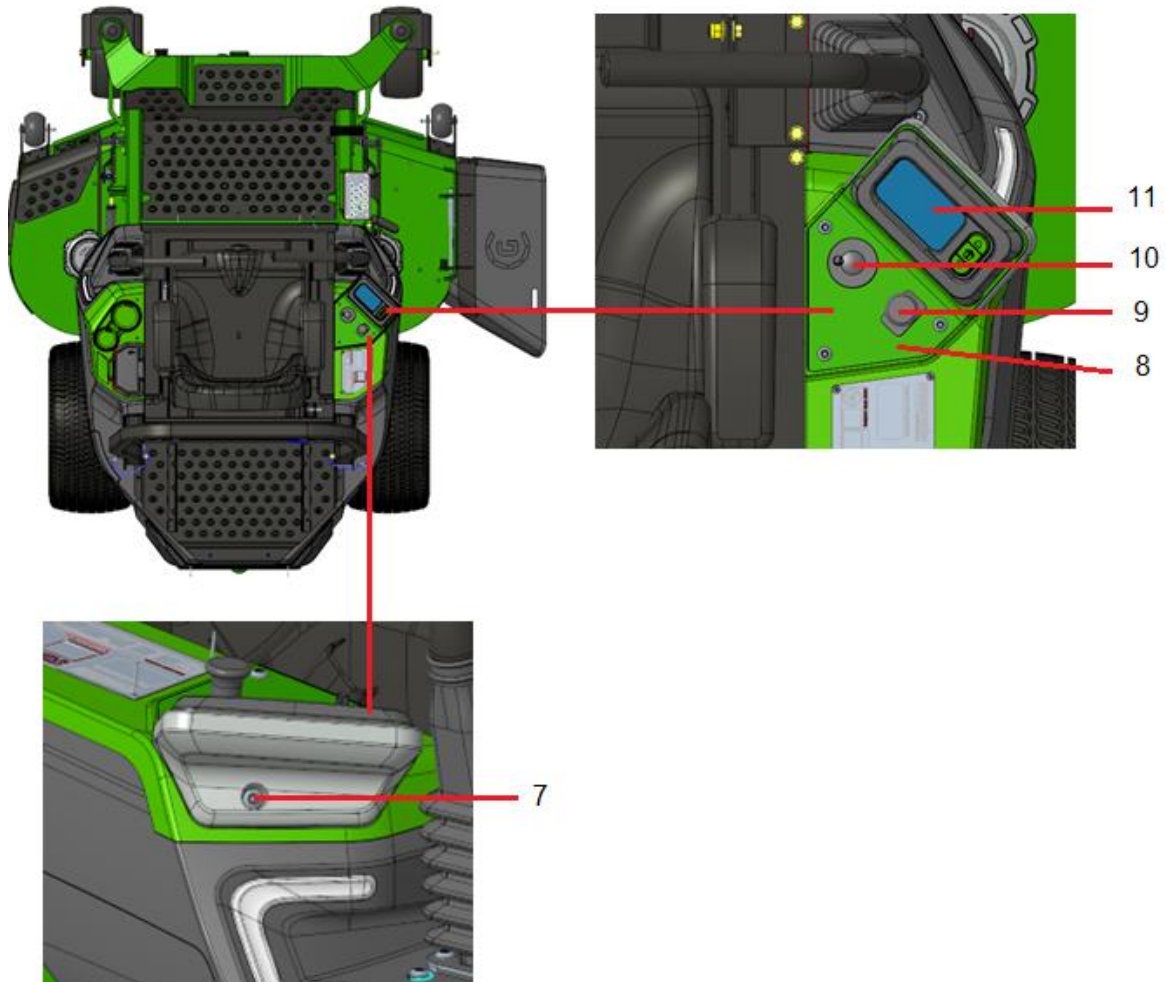

Fig.1
1. Use a T30 hexagonal Torx wrench to remove the four bolts M6\*20 (7) shown in the Fig. 1.
2. The harness now connects to the switches and display screen on the control panel (8). Open the control panel carefully and do not drag or pull the harness to prevent damage to the switches and display screen.
3. Disconnect the connections behind the PTO switch (9), key switch (10) and display screen (11).